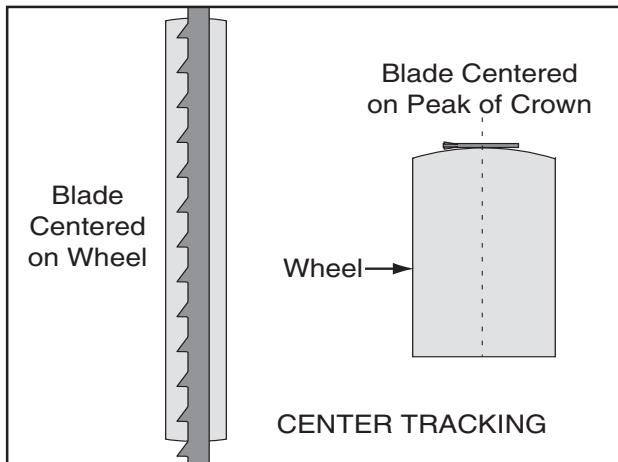

Figure 23. Center tracking profiles.
4. Spin the upper wheel by hand at least three times and watch how the blade rides on the crown of the wheel. Refer to **Figure 23** for an illustration of this concept.